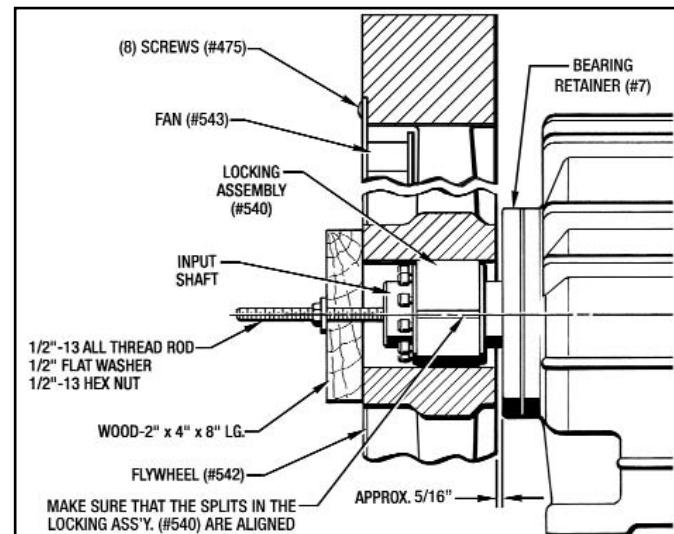

Figure 1 - Installing Flywheel on Input shaft
(See Figure 1)
6. Place the 2x4, 1/2" Flat Washer, and a 1/2"-13 Nut onto the threaded rod and tighten the hex nut so it pushes the Flywheel onto the input shaft until it is approx. 1/8" from the Fan Shroud (#24) or 5/16" from the Bearing Retainer (#7) (See Figure 1)